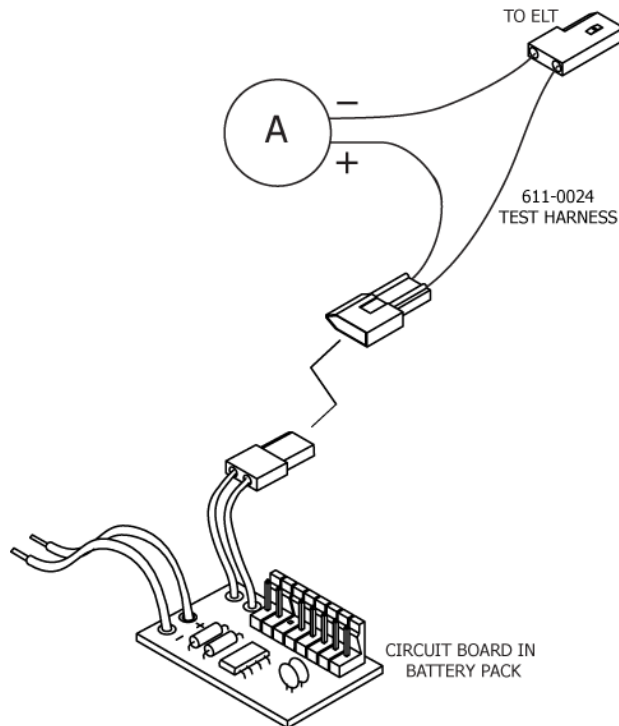

Figure 10 Current Draw Test Setup
- 4) Install test harness 611-0024, or equivalent, in the power circuit. See Figure 10 Current Draw Test Setup.